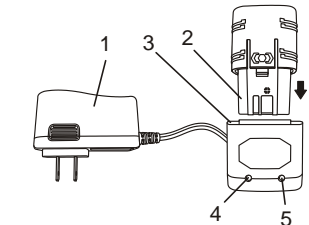

Fig. 1
1. To charge the battery, place the charger (1) in a dry location near a 120 V AC, 60 Hz electrical outlet (Fig. 1).
2. Plug the battery charger into the 120 V AC, 60 Hz wall receptacle. The green LED (4) will turn ON.
3. Place the battery stem (2) into the matching cavity (3) in the top of the charging base. **NOTES:**